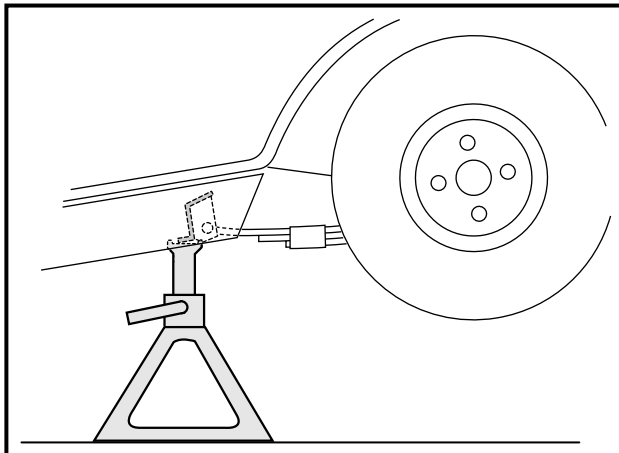

FIGURE 18-2
1. Place chocks at the front wheels and lift the rear of the vehicle with a chain hoist or floor jack. Position jackstands under the frame cross-member between the spring mount and the side stringer, just forward of each rear wheel. Lower the vehicle to let the jackstands support the vehicle (**Figure 18-2**). See WARNING below.